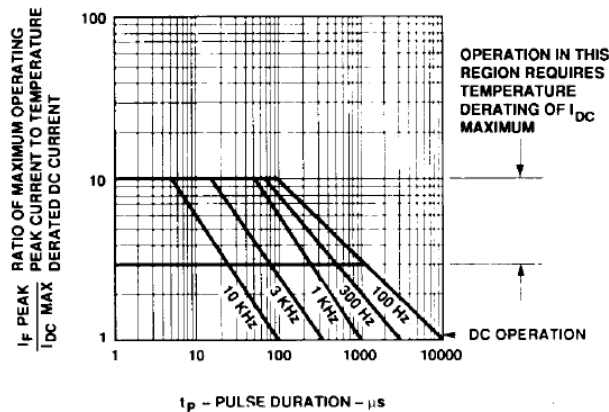

Figure 7. Maximum Tolerable Peak Current vs. Pulse Duration – HER, Orange.
3. See Figure 7 to establish pulsed conditions.